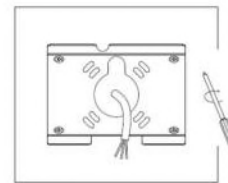

Figure 1-3
3. Align mounting bracket with hole; tighten screws (Figure 1-3)